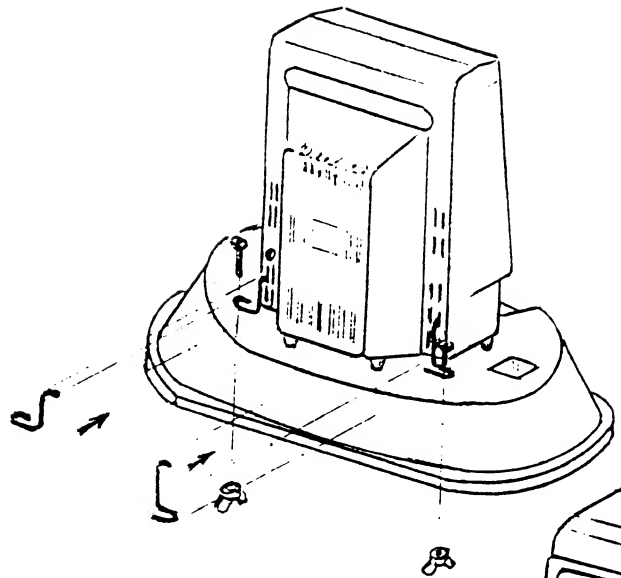

FIGURE 5
Note that each wire hook will fit only on one side of the display. (Figure 5)
10. Using 2,  $\frac{1}{4}$ " dia. x  $\frac{3}{4}$ " long, truss head machine screws and wing nuts, attach the rear wire security hooks to the top. (Figure 5)